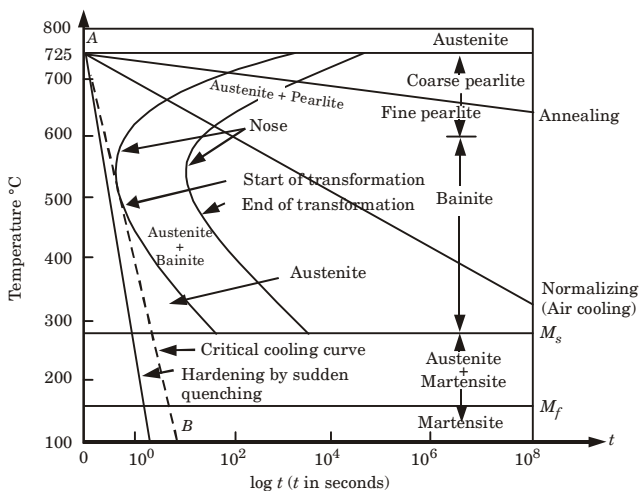

Fig. 12. The TTT curve showing temperature and log (time) variation for an eutectoid steel, and its different phases.
12. A complete feature of TTT diagram to show its different phase is shown in (Fig. 12).